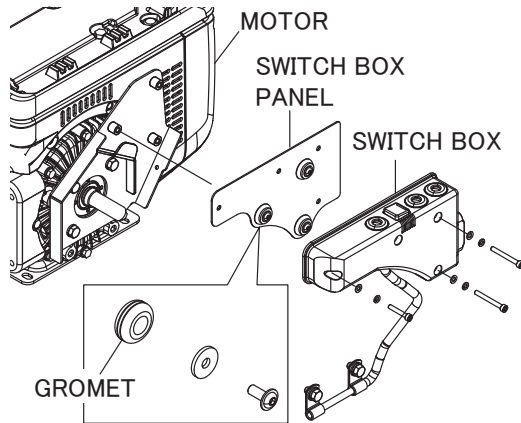

Figure 16. Checking Switch Box
1. Check that the assembly of switch box is not loose (Figure 16).